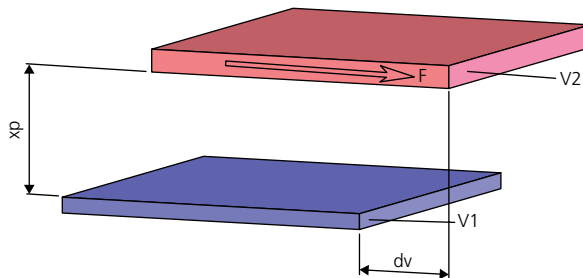

Figure 12.1 Diagram illustrating shear.
Isaac Newton defined viscosity by considering the model shown in Figure 12.1. Two parallel planes of fluid of equal area "A" are separated by a distance "dx" and are moving in the same direction at different velocities "V1" and "V2". Newton assumed that the force (F) required to maintain this difference in speed was proportional to the difference in speed through the liquid, or the velocity gradient at the part of liquid under consideration.